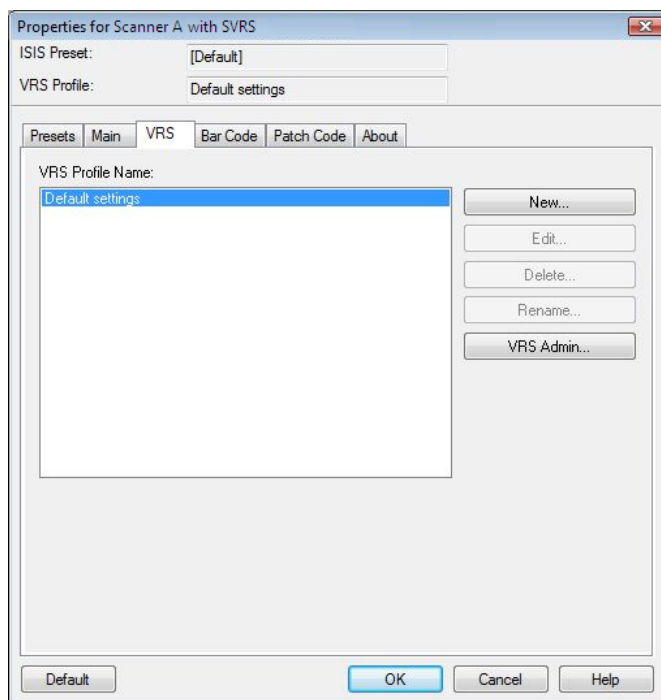

Figure 2-8. Kofax VRS ISIS Interface
The Kofax VRS ISIS interface (Figure 2-8) serves as a connection between VRS and your ISIS scanning application. In most cases, the Kofax VRS ISIS interface is displayed automatically when you select the “Kofax VRS Scanner” source from your ISIS scanning application. The interface includes settings for configuring preferences related to basic scan settings, VRS profiles, bar codes, imprinters, patch codes, and more.
- 3 The Kofax VRS ISIS interface will launch (Figure 2-8). Under General, select settings such as the paper source, DPI, mode, and paper size.